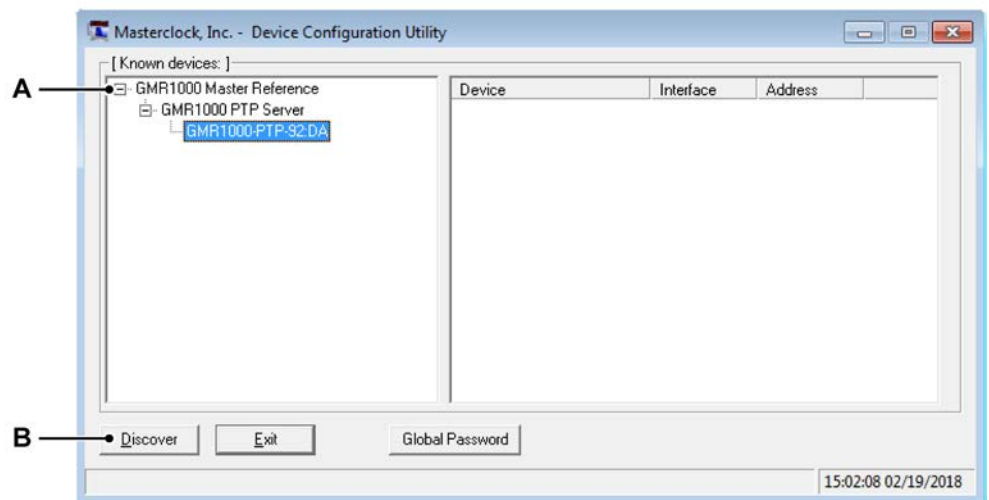

Figure C.56: Device Configuration Utility tool - Detected devices
- 1 Start the WinDiscovery tool from Masterclock®, this will show the devices on the network (see Figure C.56).